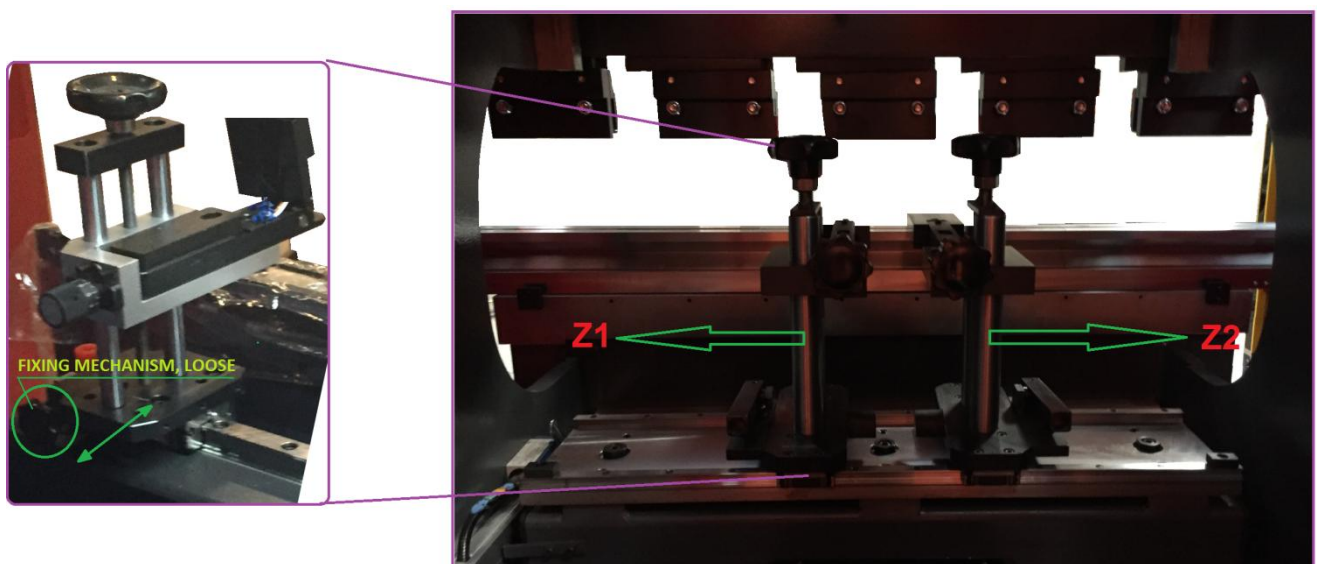

Figure-44: Z axis adjustment realized by manual.
**3) Z axis adjustment** realized by manual. Insert the bar number 1 in the slot 2 as shown below and press the bar number 1 in the down direction to open the braking system. Adjust the Z axis by scrolling right and left while the lever is pressed down. When you have completed the adjustment process, lift the arm upwards and remove it from its place. Z axis will lock itself with spring force. (See Figure-44) .